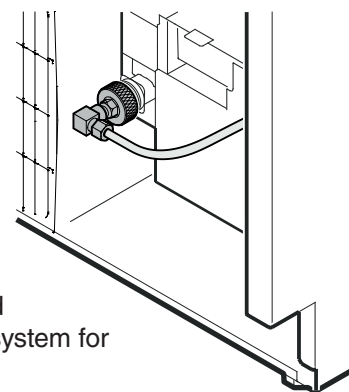

Figure 16
6. Connect the water line to the adapter in the respective configuration, depending on the type of water line used. Figure 16 shows the configuration with a copper line as an example.
8. Screw the adapter onto the solenoid valve (**Figure 16**).